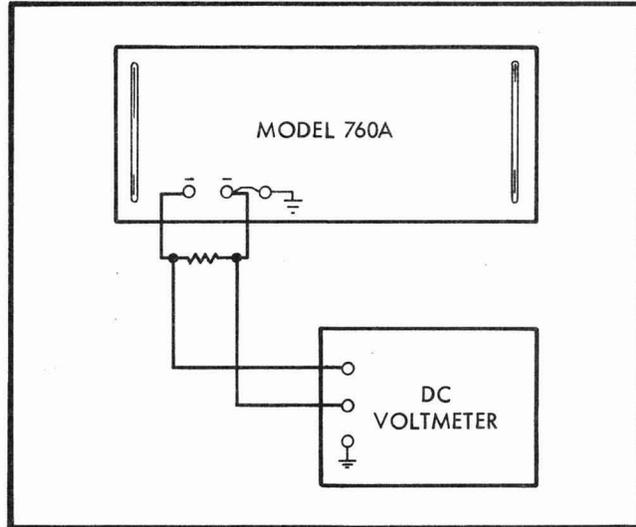

Figure 4-10. DC CURRENT CALIBRATION SETUP
- (1) Turn the FUNCTION switch to AMPS,
- (2) Turn the FREQUENCY switch to DC,
- (3) Turn the METER SENS switch to SEARCH,
- (4) Set the readout dials to 1.000000, and
- (5) Turn the OUTPUT ADJUST-COARSE control to RESET.
- b. Connect the one-ohm resistor to the OUTPUT terminals and connect the dc voltmeter across the resistor as shown in Figure 4-10.